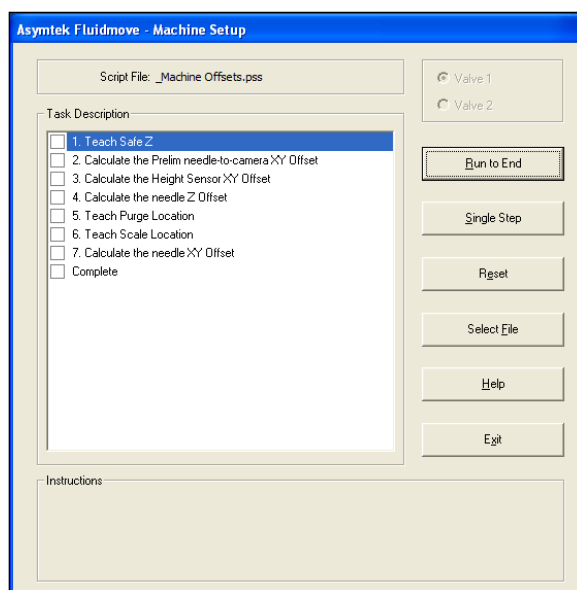

Figure 4-5 Machine Setup Window
- ▶ The Machine Setup window opens (Figure 4-5).
**NOTE** The script file selected in Figure 4-5 runs offsets for Valve 1. The following sections describe the steps.